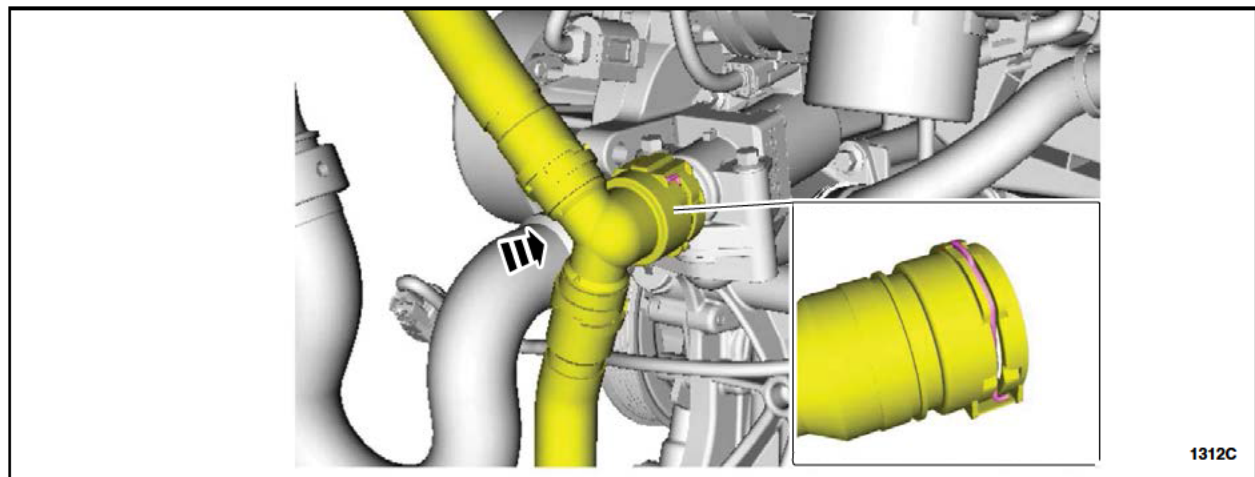

FIGURE I6
11. Connect the quick connect T-fitting to the coolant shutoff solenoid valve. See Figure I6.